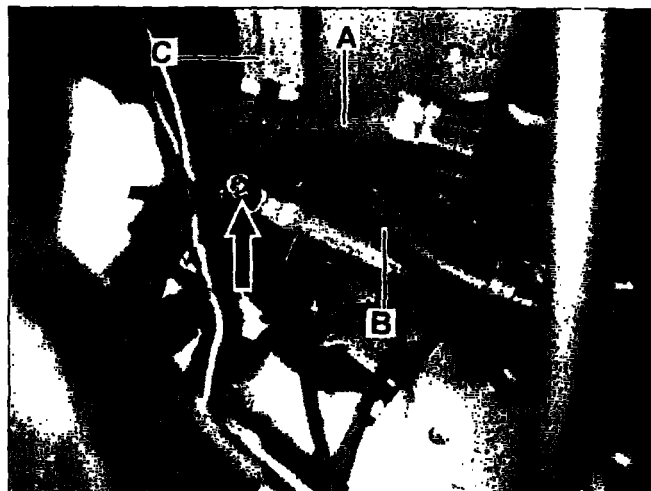

Figure 30
- Ensure wiring harness (A, Figure 30) touches the bracket (C, Figure 28) and is mounted there tension free.
- Ensure wiring harness (A, Figure 30) and water hose (B, Figure 30) are not touching each other.
- Ensure tightening torque on ground terminal stud (arrow, Figure 30) is **between 7 and 10 Nm**.